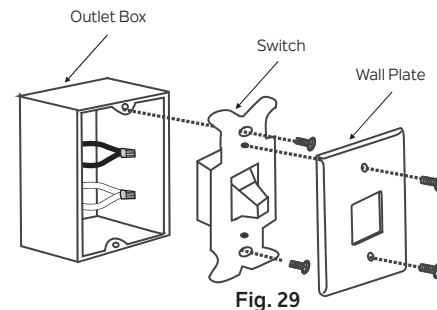

Fig. 29
Step 1. Remove the existing wall plate and the old switch from the wall outlet box. (Fig. 29)
Step 2. Connect the BLACK leads (hot) together with a wire connector (not supplied) and push the connected leads back inside the wall outlet box. (Fig. 29)
Step 3. Connect the WHITE leads (neutral) together with a wire connector (not supplied) and push the connected leads back inside the wall outlet box. (Fig. 29)